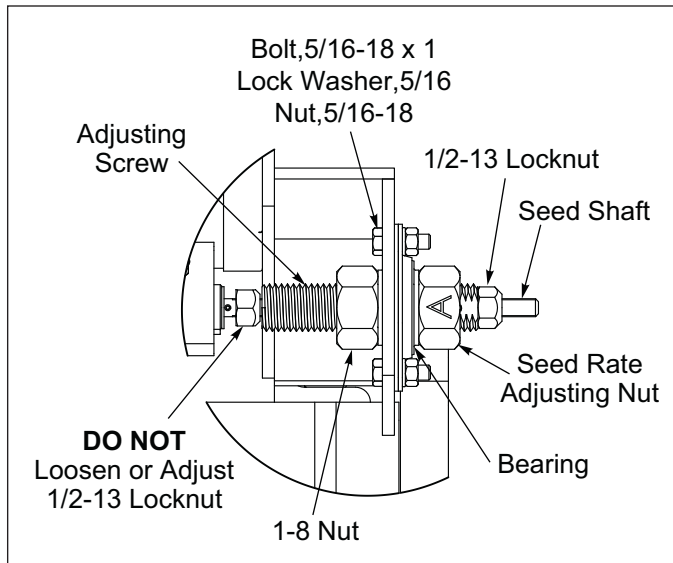

Figure 2-45: RH Support Bracket Detail
7. Remove the 5/16-18 hardware that attaches the Seed Rate Adjusting Bearing Flangettes to the RH Support Bracket. Remove the 1/2-13 Locknut from the end of the Seed Shaft. Remove the Adjusting Screw, 1-8 Nut, Bearing with Flangettes and Seed Rate Adjusting Nut together as one assembly. **See Figure 2-45.**
23. Slide the assembly of the Adjusting Screw, 1-8 Nut, Bearing with Flangettes and Seed Rate Adjusting Nut onto the front Seed Shaft. Attach the Bearing Flangette to the RH Extended Support Bracket with 5/16-18 x 1 Bolts, Lock Washers, and Nuts. Thread 1/2-13 Locknut onto the end of the front Seed Shaft. **See Figure 2-45.**